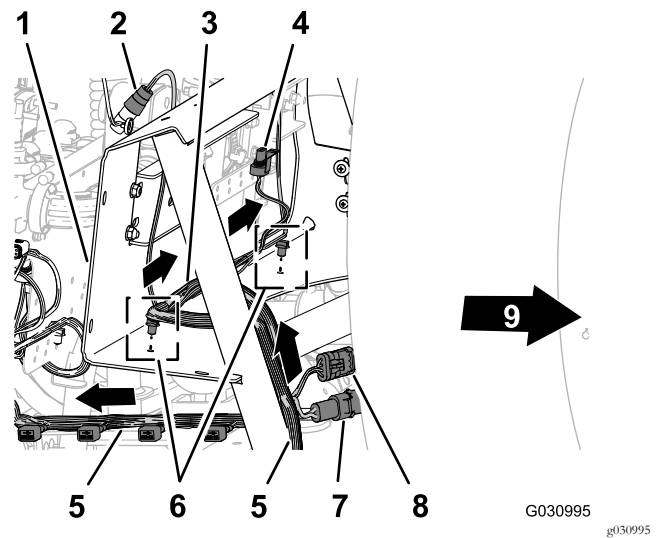

Figure 125
- Route the 203 cm (80 inches) branch of the wire harness inboard of the support strut for the valve mount and rearward toward the 10-valve mount as shown in Figure 125.
- Route the 81 cm (32 inches) wire harness branch for the flow meter and agitation valve across the front of the manifold mount (Figure 125).
- Insert the fir-tree anchors of the 81 cm (32 inches) wire harness branch into the holes in the lower flange of the manifold mount (Figure 125).